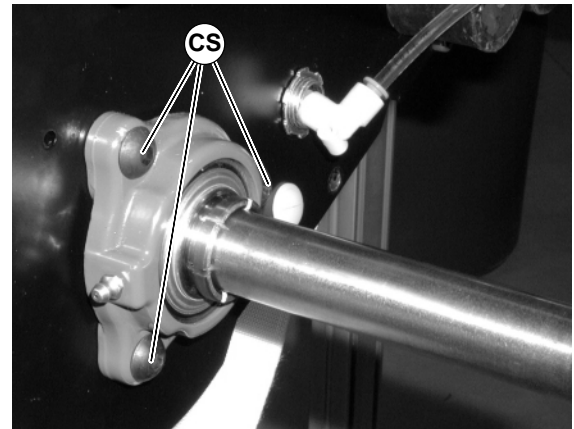

Figure 87
6. Tighten three (3) mounting screws (CS of Figure 87) to 200 in-lbs (22.5 N-m).